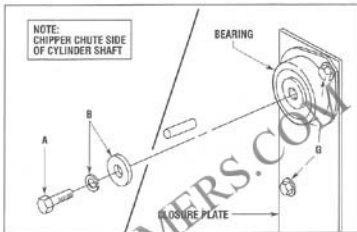

Figure 5-5: Cylinder shaft removal (chipper chute side).
On the other end (chute end) of the cylinder shaft, use a 9/16-inch wrench to remove the capscrew (A) which secures the shaft. Remove the two washers (B). See Figure 5-5.
- Hold the shaft by reaching down inside the shredder hopper. Use a 9/16" wrench to remove the six screws (G) securing the bearings and closure plates on both sides of the machine. (Figure 5-5 shows two of the three screws which secure the closure plate on the chipper chute side).